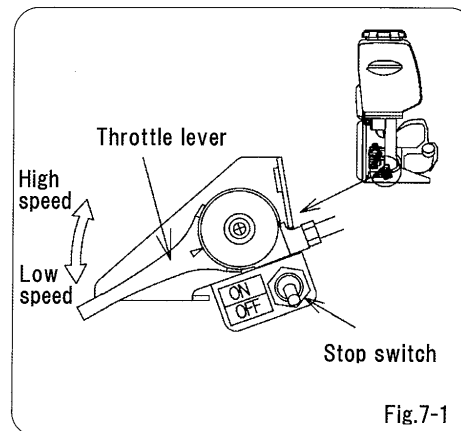
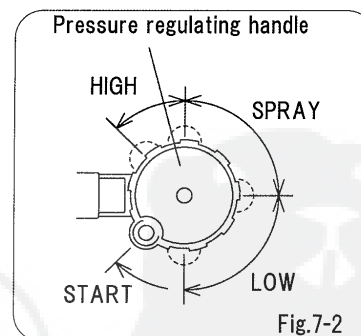

Fig.7-1
Fig.7-2
- ② Set the stop switch to the ON position. (Fig.7-1)
- ③ Push the priming pump on the carburetor several times until fuel begins to flow.
- ④ Set the throttle lever to the LOW position. Set the choke lever in the CLOSE position When the engine is cold.
- ⑤ Turn the pressure regulating handle to the START position. (Fig.7-2)
- ⑥ While holding the sprayer steady, grip the recoil starter handle and yank it quickly.
- ⑦ While checking the engine status after startup, return the choke lever gradually to the OPEN position.
- ⑧ For 2 to 3 minutes after startup, perform warming up.
- Turn the pressure regulating handle in the range "LOW ~ SPRAY ~ HIGH" to a position suitable to the work condition while referring to round protruding portions as the reference. Because fine steps are provided, fine adjustment is available. (Fig. 7-2) Use the low pressure for spraying the herbicide, use the spray for spraying normal agricultural chemical, and use the high pressure for places requiring high pressure (for washing, etc.).